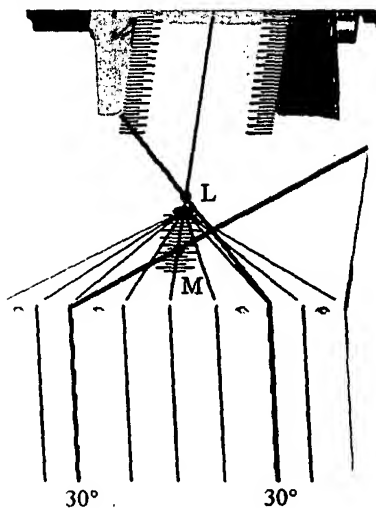

Fig. 12
- Line up the Knee Laser with the centerline on the Target. This "preliminary" longitudinal axis will be within a few degrees of the actual because of the anatomical fit of the V-Frame in the femoral intercondylar notch. (Fig. 12)
- Swing the patients flexed leg laterally (**L**) to 30 degrees and hold in place. Make a small dot on the target centerline where it intersects the laser line. Label this dot **L**. (Fig. 12)
- Next, sweep the leg medially (**M**) to 30 degrees and hold in place. Make another small dot on the target centerline at the laser line intersection. Label this dot **M**. NOTE: If the points are coincident, skip ahead to Step 2. (Fig. 12)